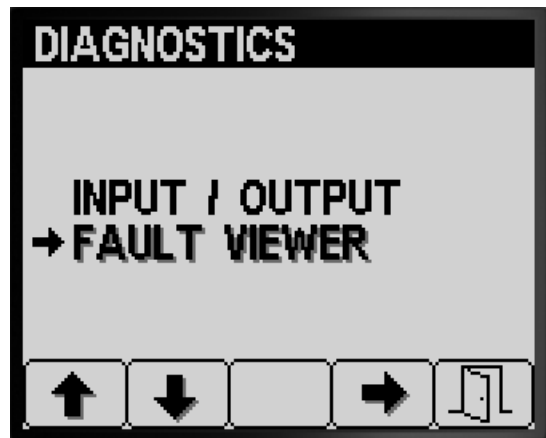

Figure 86
- Press button 1 or 2 on the Diagnostics screen until you reach the FAULT VIEWER option (Figure 86).
- Press button 3 to select the FAULT VIEWER entry (Figure 86).